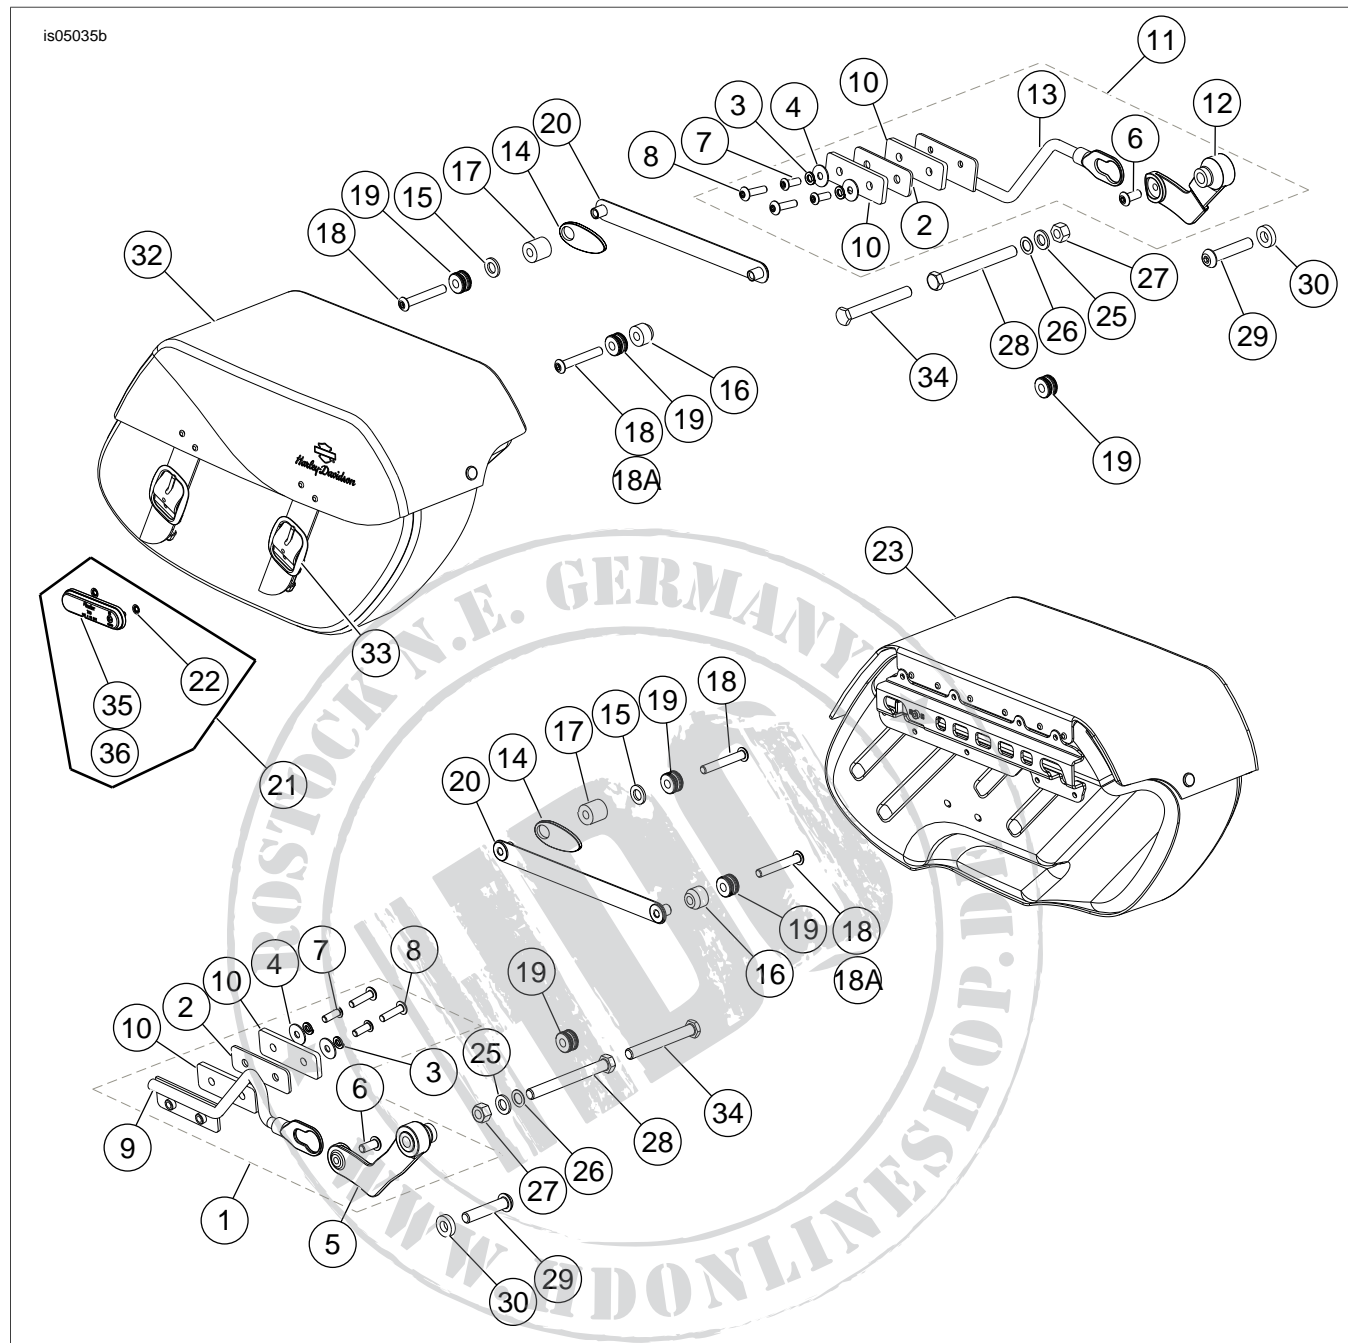

Figure 6. Service Parts: Dyna Detachable Saddlebag
See Figure 6 and Table 1.
3. See Figure 6. Remove the shock absorber following the instructions in the left lower bracket kit (1) or right lower bracket kit (11).
1. See Figure 6. Install right lower support arm (13) and left lower support arm (9) following the instruction sheets included in those kits.
4. See Figure 6. Tip the bag forward and swing the large diameter of the keyhole end of the lower support arm (13) over the lower docking point (19). Swing the body of the bag down so that the outer docking points on the strut cover slide into the slots on the back of the bag.
1. See Figure 6. Position reflector (21) in center of saddlebag between straps.
7. Install reflector mount on saddlebag using two push nuts (22). The push nuts are installed from inside the saddlebag.